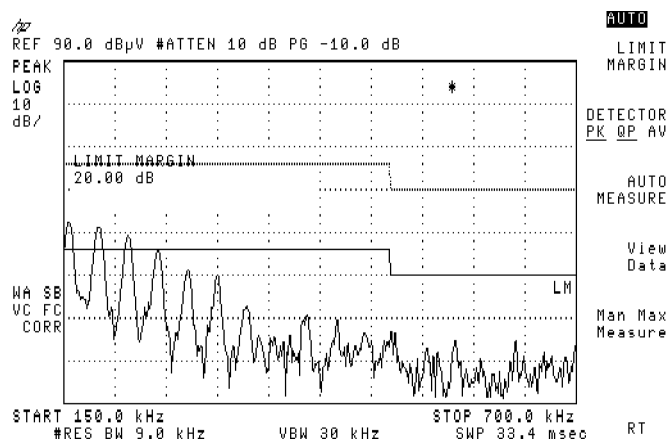

Figure 3-21. Setting the Limit Margin to 20 dB
9. Press **LIMIT MARGIN**, 20, **[dB]** to set the limit margin to 20 dB. See Figure 3-21.